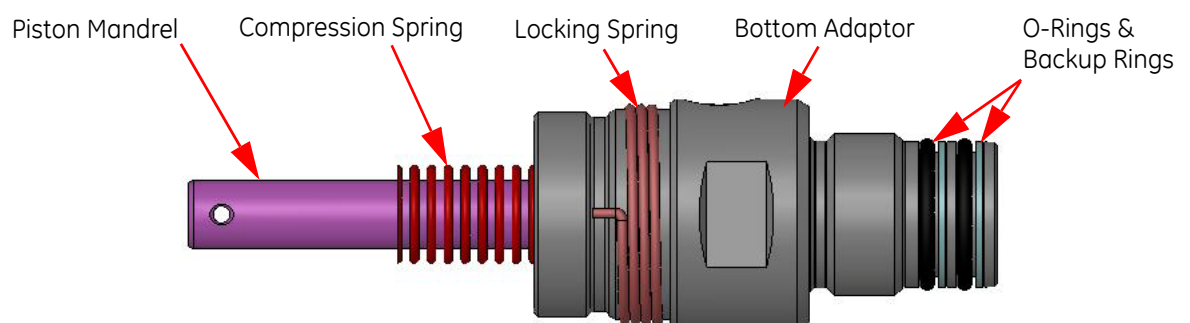
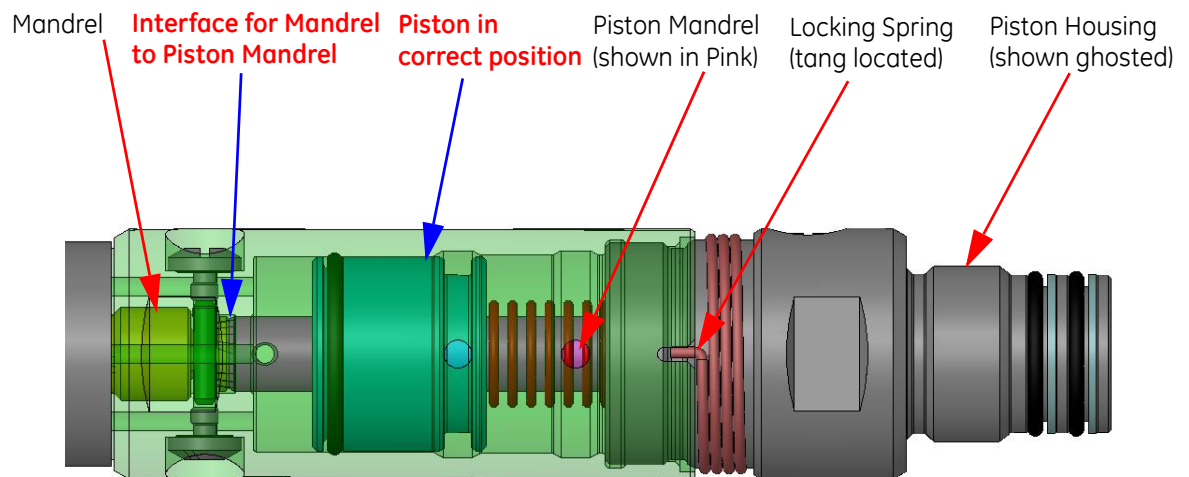

Figure 5-11 Bottom Adaptor assembled ready for installation
Figure 5-12 Piston Mandrel installed fully through Piston
- 7 With reference to Figure 5-11, locate the Locking Spring (*item 14*) on the upper end of the Bottom Adaptor.
- 8 With reference to Figure 5-11, locate the Compression Spring (*item 17*) over the Piston Mandrel.
- 10 Make sure Dow Corning® 200® Fluid, 100CST Oil (P/N: 415574) is applied to the O-Ring (item 24) installed inside the Piston (item 4).
- 11 With reference to Figure 5-12, push carefully the Piston Mandrel over the Line Wire and then through the Piston until the threads of the Bottom Adaptor engage with the threads of the Piston Housing.